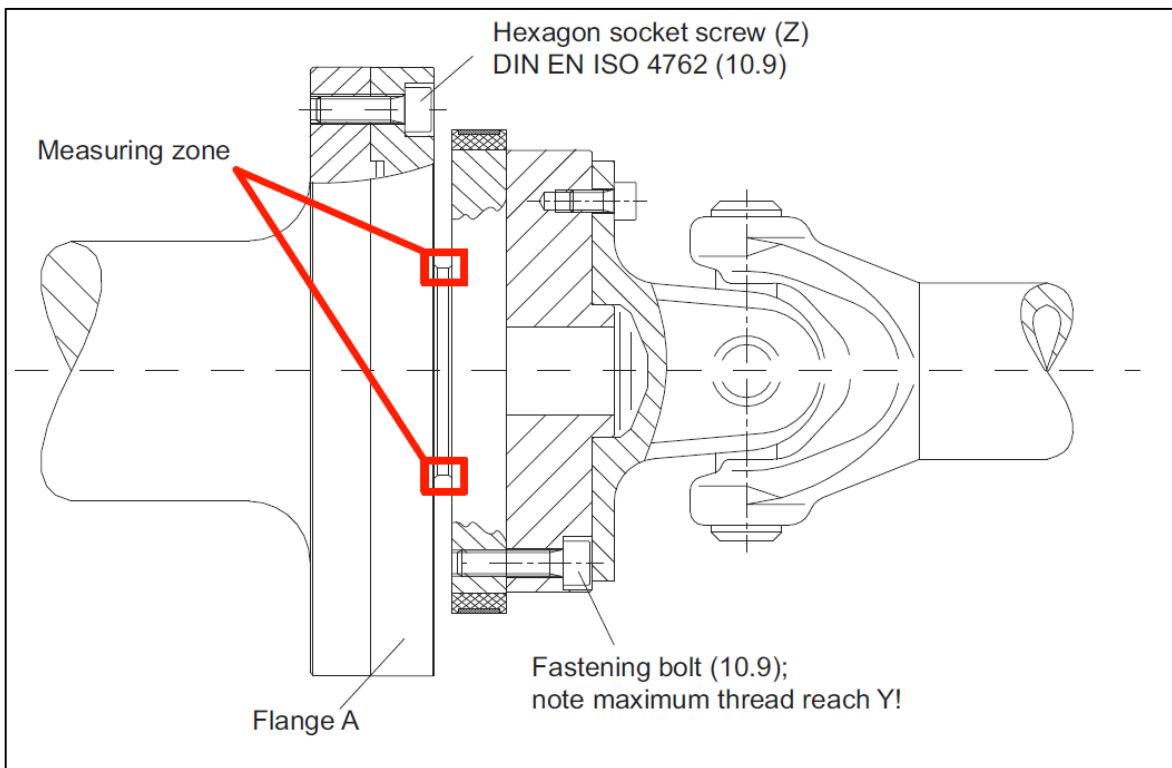

Fig. 5.4: Bolted rotor connection
Make sure during installation that you do not damage the measuring zone marked in Fig. 5.4 by using it to support tools or knocking tools against it when tightening screws, for example. This can damage the transducer and produce measurement errors, or even destroy the transducer.
2. For the connection of flange A (see Fig. 5.4), use DIN EN ISO 4762 property class 10.9 hexagon socket screws of a suitable length (dependent on the connection geometry, see Tab. 5.1).